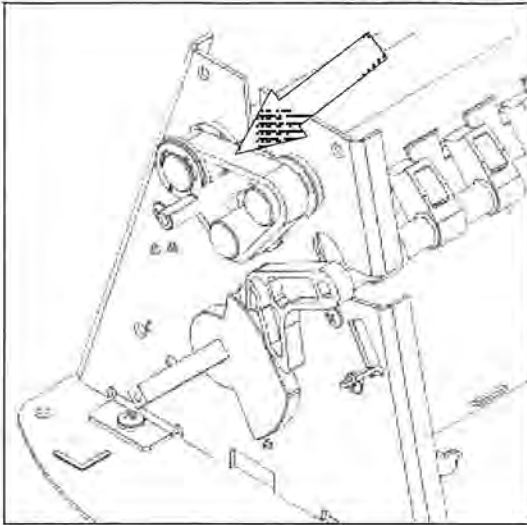

Figure 7
8. Locate and remove both of the roller drive belts found at either ends of the steel rollers (Figure 7). To clean the roller drive belts, place both belts onto a clean cloth and spray the belts with *Martin Yale Rubber Roller Cleaner And Rejuvenator*. Wipe the belts dry and reinstall.